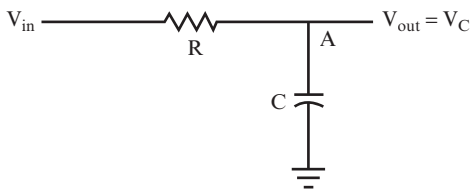
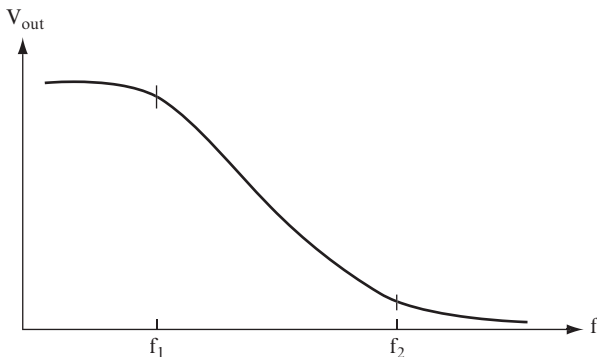

FIGURE 6.17
FIGURE 6.18
15 The circuit shown in Figure 6.17 is used in many electronic devices.
The impedance of this circuit is the same as that of the circuit used in the last few problems. It still behaves like a voltage divider, and you can calculate the output voltage with an equation similar to the one you used for the high-pass filter circuit discussed in the last few problems. However, by switching the positions of the resistor and capacitor to create the circuit shown in Figure 6.17, you switch which frequencies will be attenuated, and which will not be attenuated, making the new circuit a low-pass filter, whose characteristics you explore in the next few problems.
16 Refer to the circuit shown in Figure 6.17 and the following values:
17 Again, refer to the circuit shown in Figure 6.17 to answer the following question.
19 V_{out} of the circuit shown in Figure 6.17 changes as the frequency of the input signal changes. Figure 6.18 shows the graph of V_{out} versus frequency for this circuit.
NOTE You can see in Figure 6.18 that V_{out} is large for the lowest frequency and nearly zero for the highest frequency. This type of circuit is called a *low-pass filter* because it will pass low frequency signals with little attenuation, while blocking high-frequency signals.
9. In the blank graph shown in Figure 6.20, plot V_{out} versus f_{in} with the voltage on the vertical axis and the frequency on the X axis. The curve should have the same shape as the curve shown in Figure 6.18.